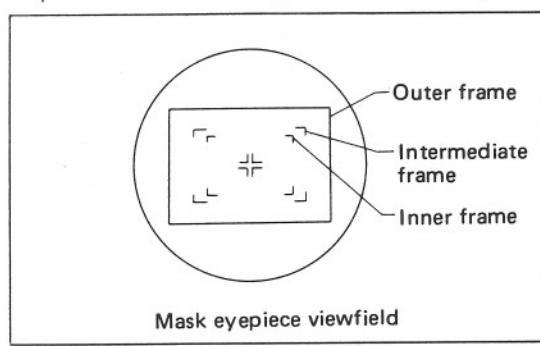

Fig. 25
- (2) Turning the eyepiece as a whole, set it in such a position that the photo mask appears as shown in Fig. 25.